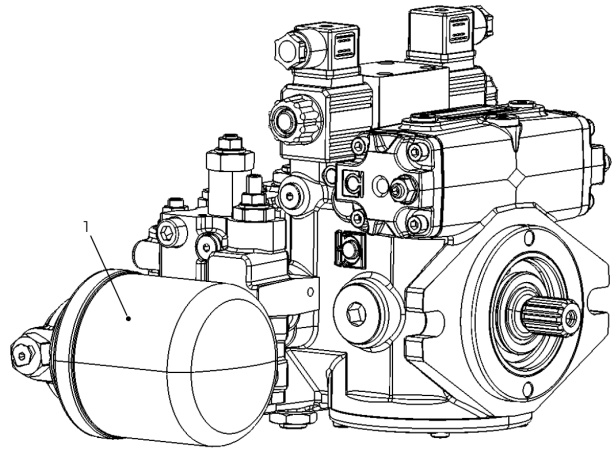

Figure 21. Hydrostatic Pump Oil Filter Replacement.
2. Replace, the hydraulic oil filter (1) (see figure 21) to keep the fluid clean.